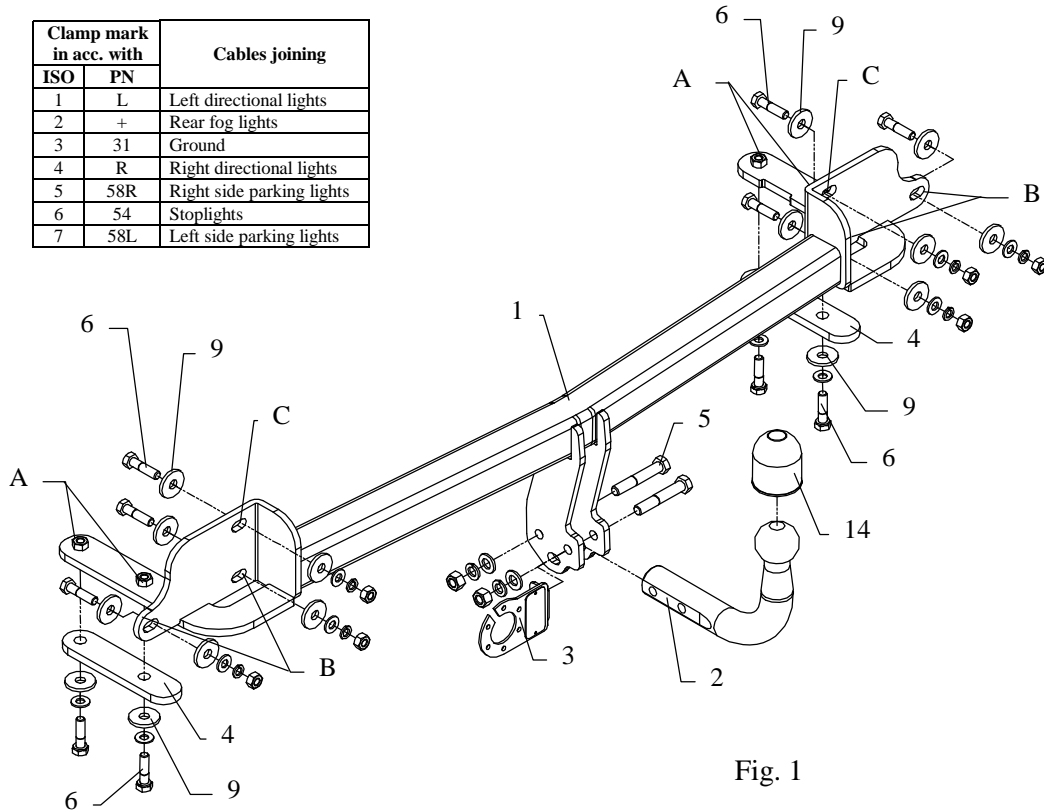

Fig. 1
4. Put main bar of towbar (pos. 1) into chassis and screw loosely according to fig. 1 through hole pos. A using bolts M10x40mm (pos. 6).